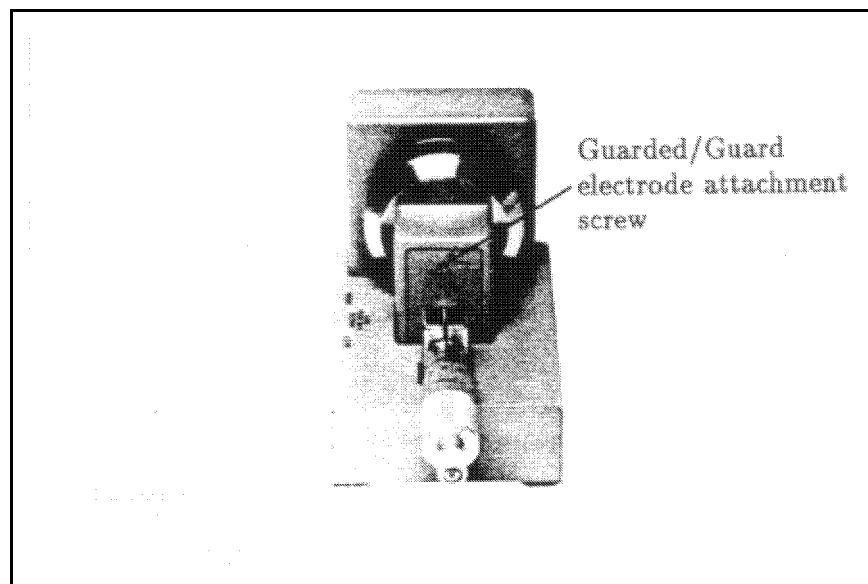

Figure 3-19.
3. Remove the Guarded/Guard electrode by loosening the screw shown in Figure 3-19 using the furnished hex key. Put it into the carrying case and take out the electrode, which you will use, from the carrying case.